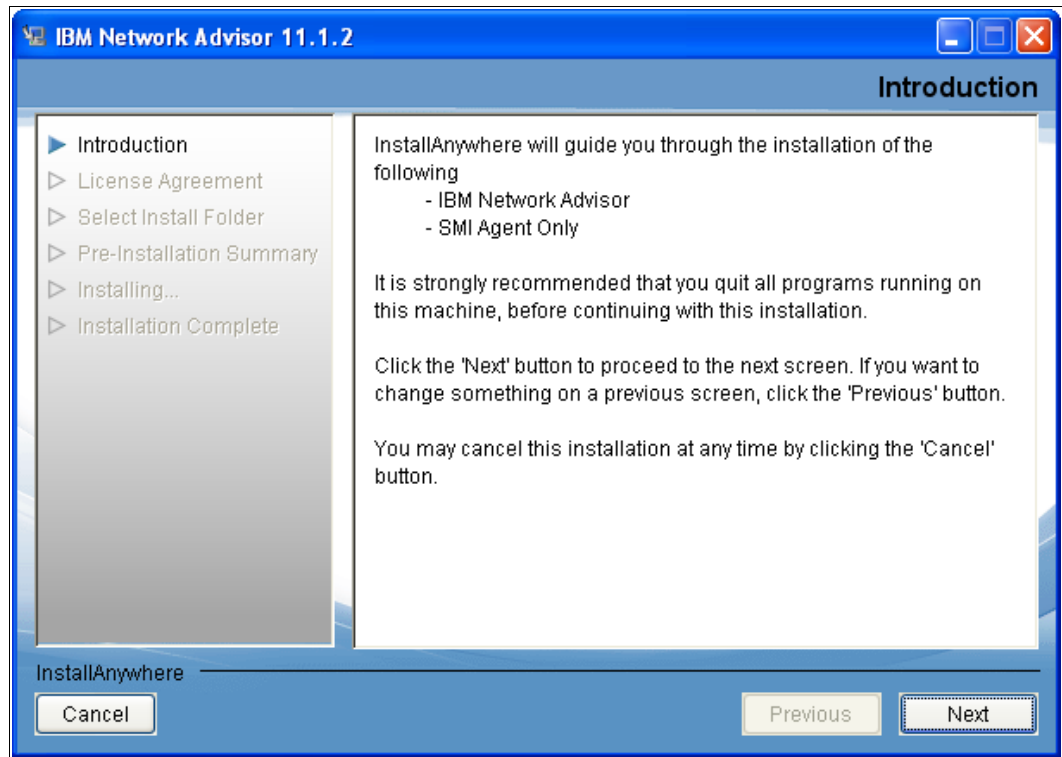
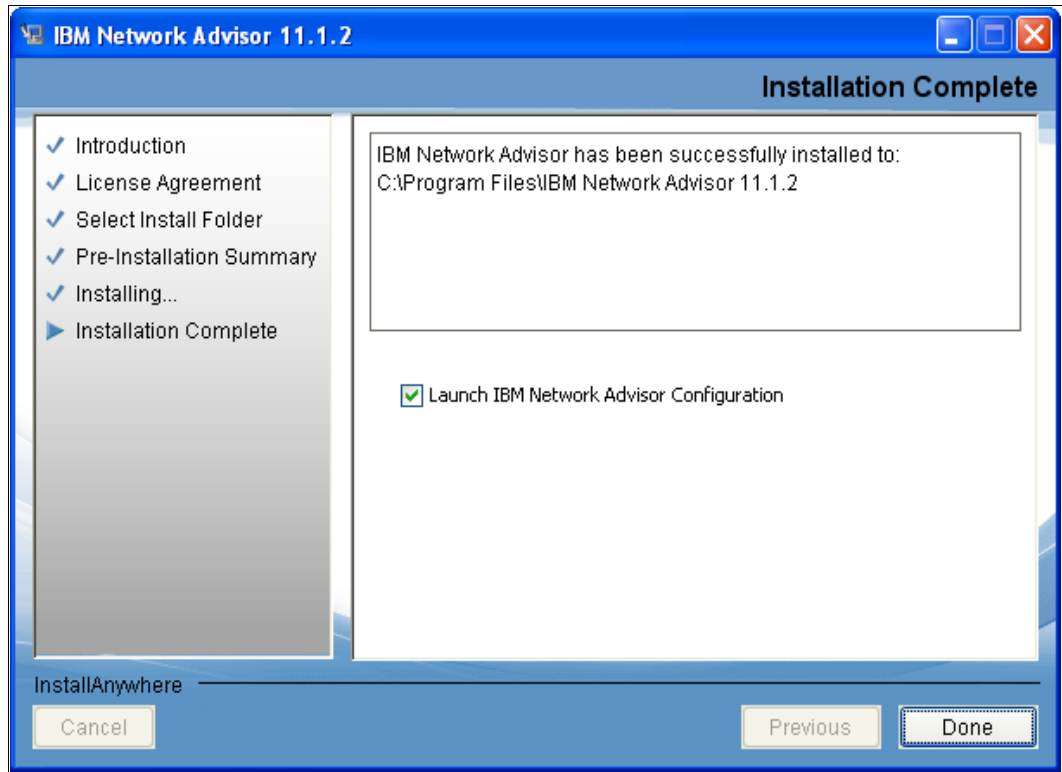

Figure 8-3 IBM Network Advisor Introduction panel
Figure 8-4 Installation Complete window
1. Get the installation DVD or the installation package for IBM Network Advisor. If autorun is enabled, the installation will start, as shown in Figure 8-3; otherwise, double-click the installation package from the installation source (located in folder Windows\install.exe).
2. Follow the instructions shown in Figure 8-3 until you reach the Installation Complete window shown in Figure 8-4 on page 250.